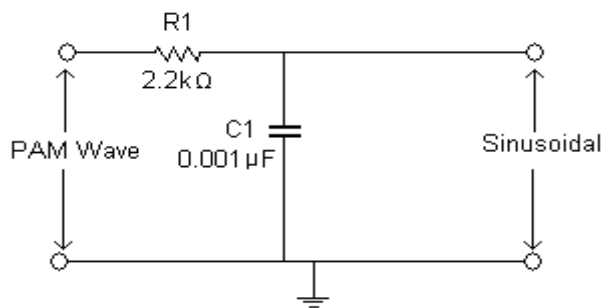

Fig: 4 Demodulation Circuit
5. Feed the modulated wave to the low pass filter as in fig 4.